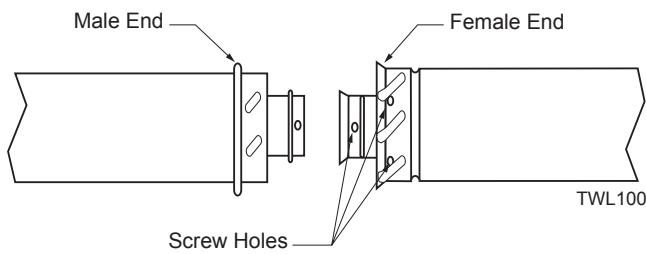

Figure 11 -
To join twist lock pipes together, simply align the beads of the male end with the grooves of the female end, twisting the pipe until the flange on the female end contacts external flange on the male end. It is recommended that you secure the joints with three (3) sheet metal screws, however, this is not mandatory with twist lock pipe. *Figure 11*